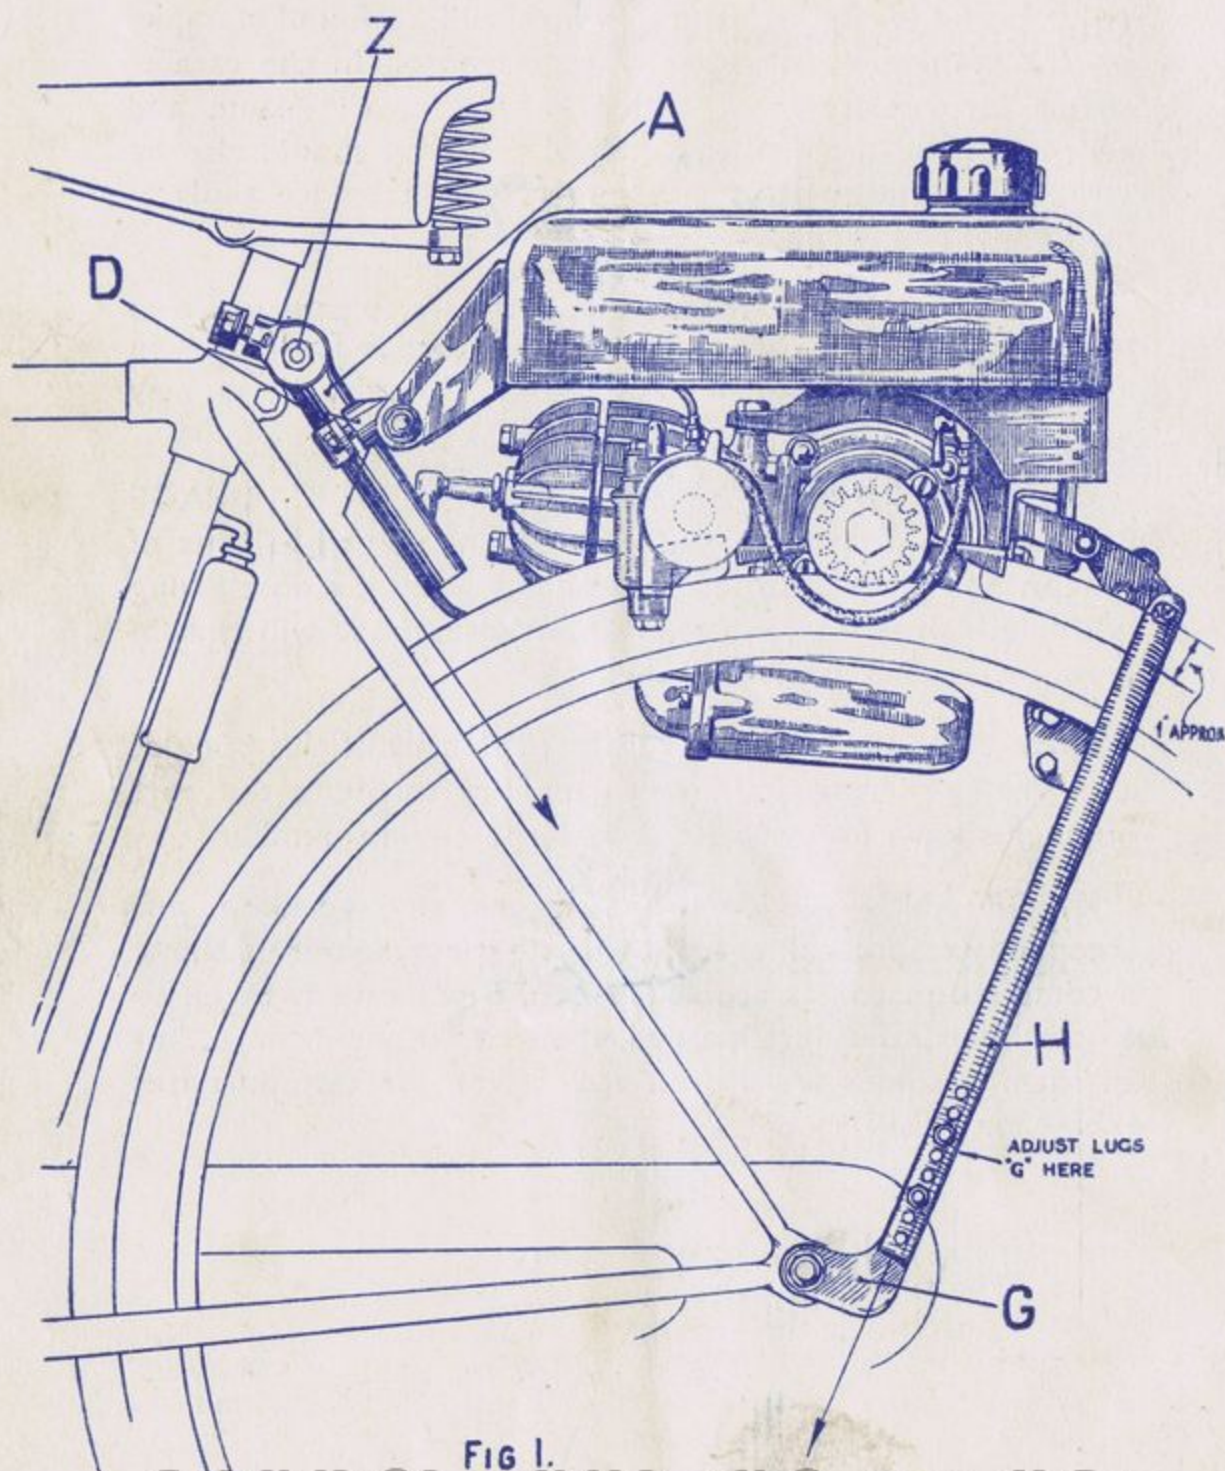

FIG 1.
Fig. 1.—To increase the pressure of the roller on the tyre, move the hinge lug "D" in the direction of the arrow for a small increase, or the U shaped fork "H" for larger increases.
- (2) Bring the petrol tank into a horizontal position by adjusting the clamping pieces "Z" on the elbow lug and sliding the hinge "D" up or down the elbow lug as required. (Fig. 1.)
- (7) Undo the nuts of the wheel spindle and spring the U shaped fork "H" into position. Each branch of the fork carries at its lower end an adjustable lug "G." Fix the position of these lugs so that a space of about 1 in. is allowed between the tyre and the fork. (Fig. 1).
To increase the pressure of the roller on the tyre, first check to ensure that the tyre is inflated hard. If slippage still occurs, slacken the nut "C" on the elbow lug "D" and slide the lug downwards in the direction of the arrow, Fig. 1. Then retighten the nut "C." If a large amount of adjustment is required, the U-shaped stay should be moved down another notch at "G," Fig. 1.